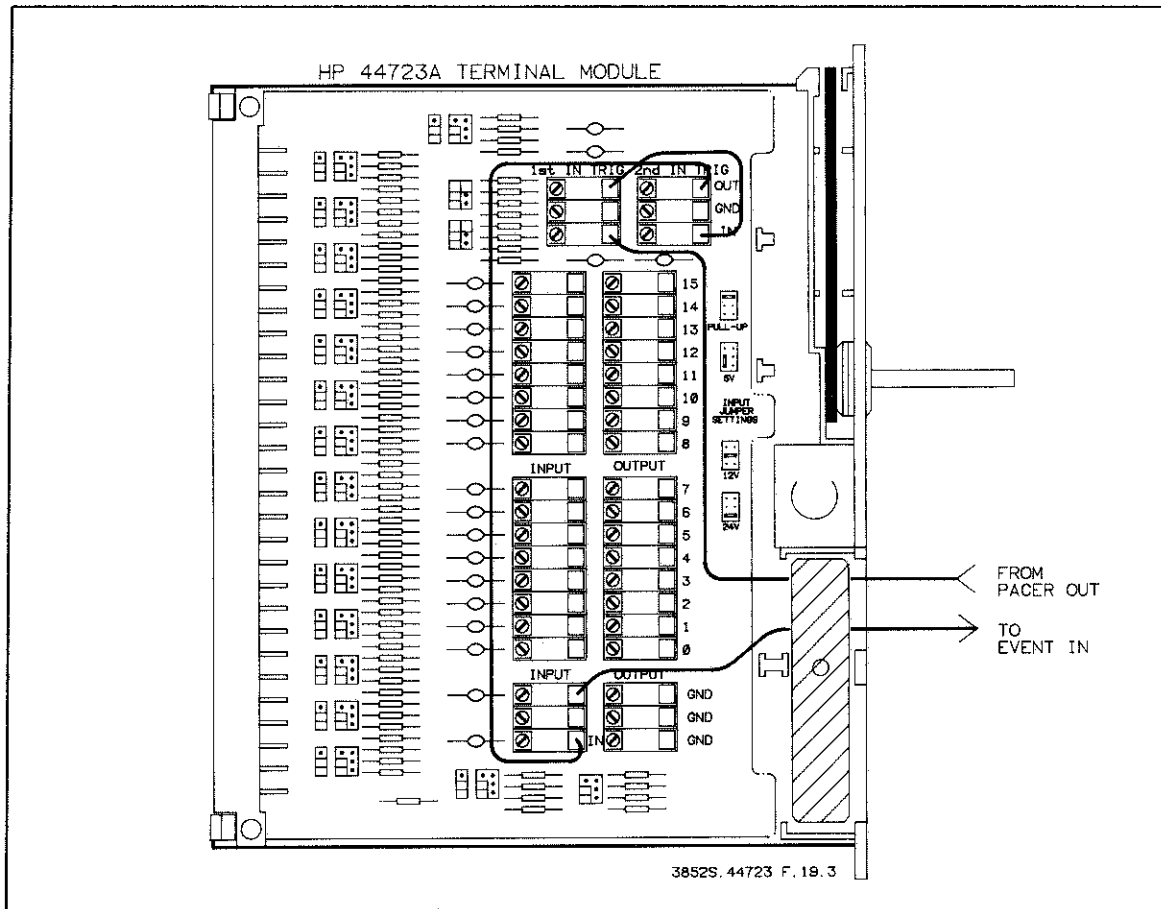

Figure 19-3 HP 44723A Trigger Test
1. Refer to Figure 19-3 and make the following connections.